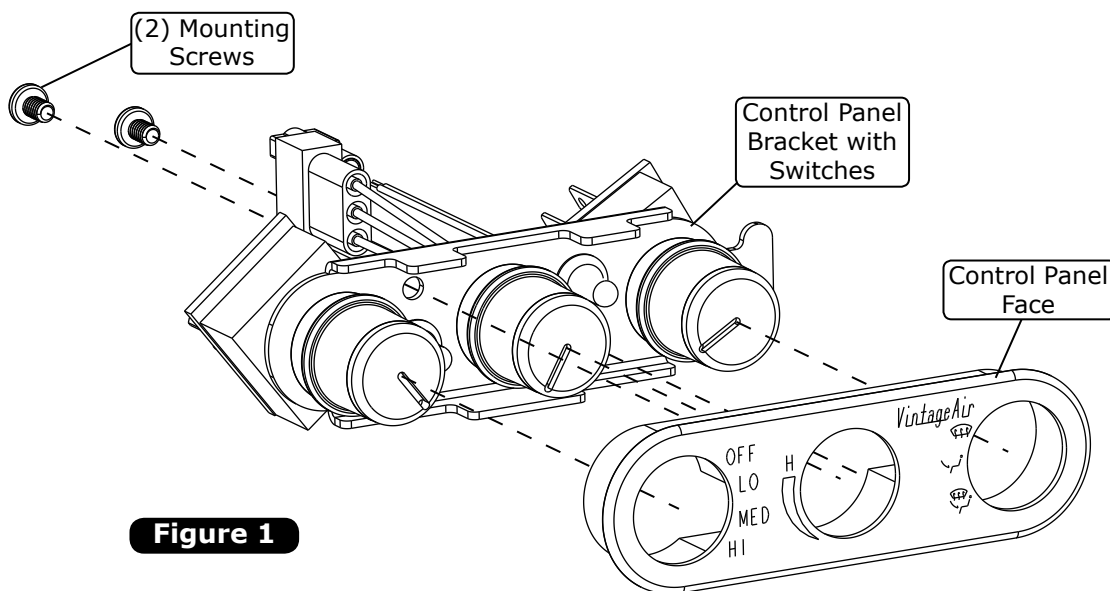

Figure 1
5. Remove the (2) control panel bracket mounting screws from the back of the control panel, and remove the control panel bracket with switches from the control panel face (See Figure 1, Page 5).